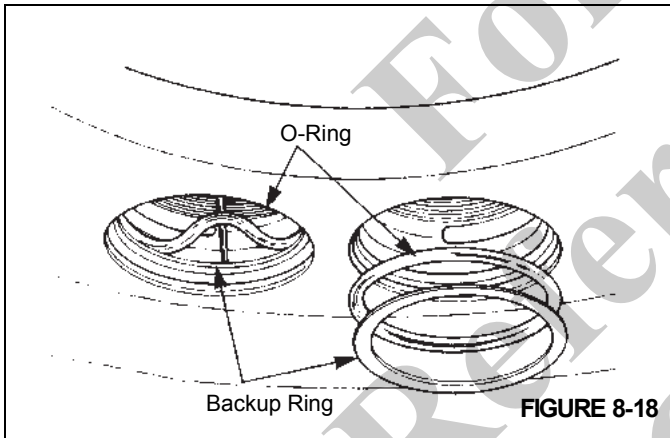

FIGURE 8-18
10. Remove and discard the O-ring and the backup rings (Figure 8-18).